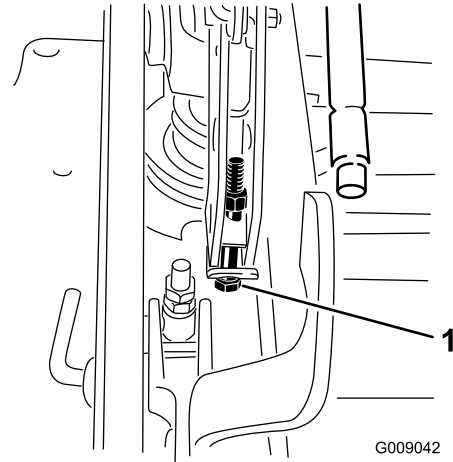

**Figure 102**
11. To adjust the single-point system, loosen the 2 bolts at the bottom of the height-of-cut plate (Figure 102).
13. Tighten the 2 bolts at the bottom of the height-of-cut plate (Figure 102).